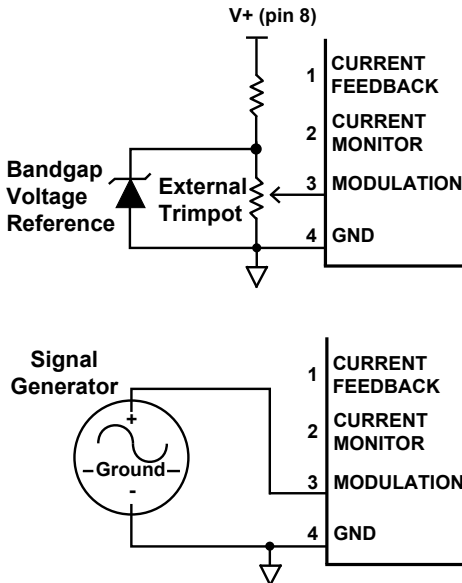

Figure 15. Two separate ways to control the laser diode current remotely.
- Connect an external trimpot or potentiometer to pin 3. See upper half of **Figure 15**.
- Connect a signal generator to pin 3. See lower half of **Figure 15**.